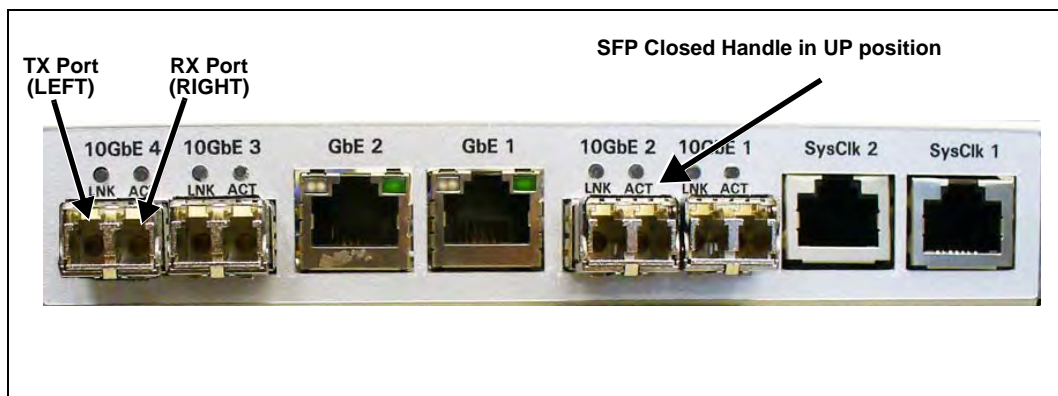

Figure B.5 - TRM100 RTM Paired with IIC100
Insert 10 Gb SFPs with the closed handle in UP position (**Figure B.5**). For the 10G SFPs, the left port is **Transmit (TX)** and the right port is **Receive (RX)**.